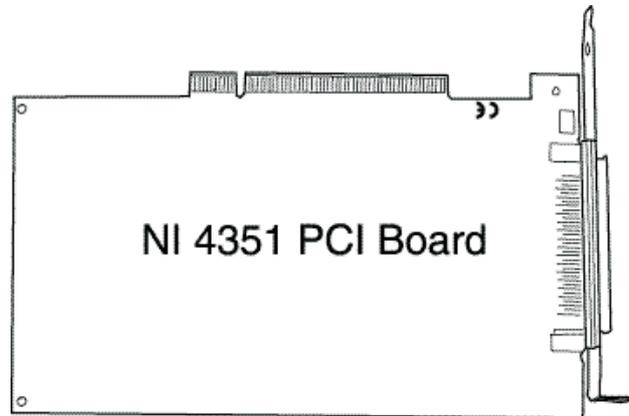

Figure 1 Omnion PCI board
5. Replace the slot cover plate using the slot cover plate screws. Secure the board in place by screwing it into the chassis through the hole at the end of the board (Figure 1).